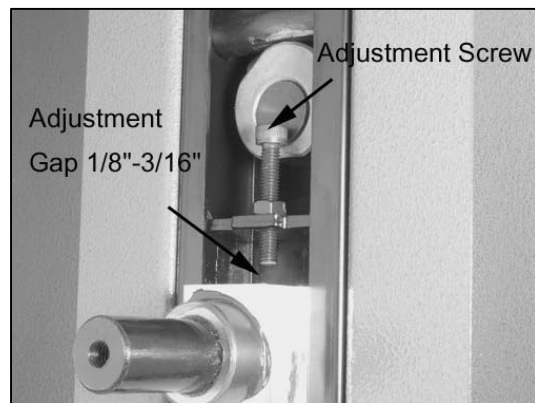

Figure 7-11
4. **Models JWBS-15 and JWBS-18:** Turn adjustment screw (Figure 7-11) until gap between screw and wheel shaft hinge is 1/8 to 3/16 in.